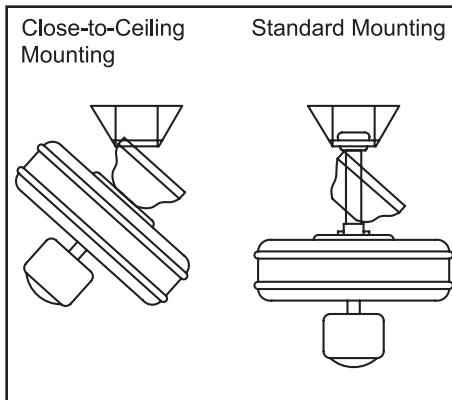

Figure 11
4. Carefully lift the fan assembly up to the ceiling mounting plate and hang the fan on the hook provided by utilizing one of the holes at the outer rim of the ceiling canopy (Figure 11). If using standard mounting, seat the hanger ball in the mounting plate socket. Make sure the tab on the mounting plate socket is properly seated in the groove in the hanger ball.
THE HOOK AS SHOWN IN FIGURE 11 IS ONLY TO BALANCE FAN WHILE ATTACHING WIRING. FAILURE TO HANG AS SHOWN IN FIGURE 11 MAY RESULT IN HOOK BREAKING, CAUSING THE FAN TO FALL. HOOK MUST PASS FROM INSIDE TO OUTSIDE OF CANOPY